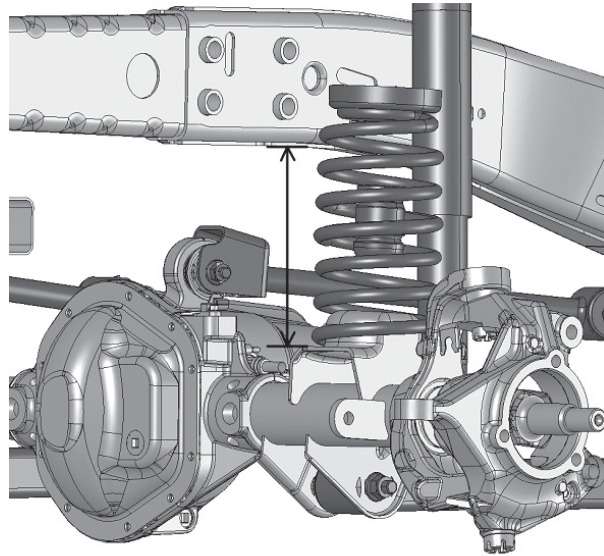

Figure 4
1. You'll first need to get a measurement from your vehicle to determine whether or not you should be using the drop brackets. Measure from the bottom of the frame to the top of the spring seat (Fig. 4). Many suspensions vary from advertised height based on vehicle options, accessories, and manufacturing tolerances. We recommend measuring the height of your vehicle even if you know the advertised lift height. This will help ensure you set caster to the proper spec.